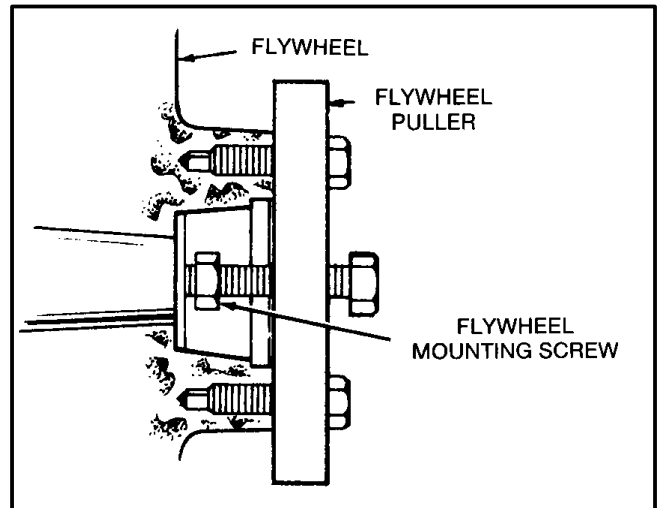

FIGURE 10-9. FLYWHEEL PULLER
2. Install a flywheel puller on the flywheel (see Figure 10-9).